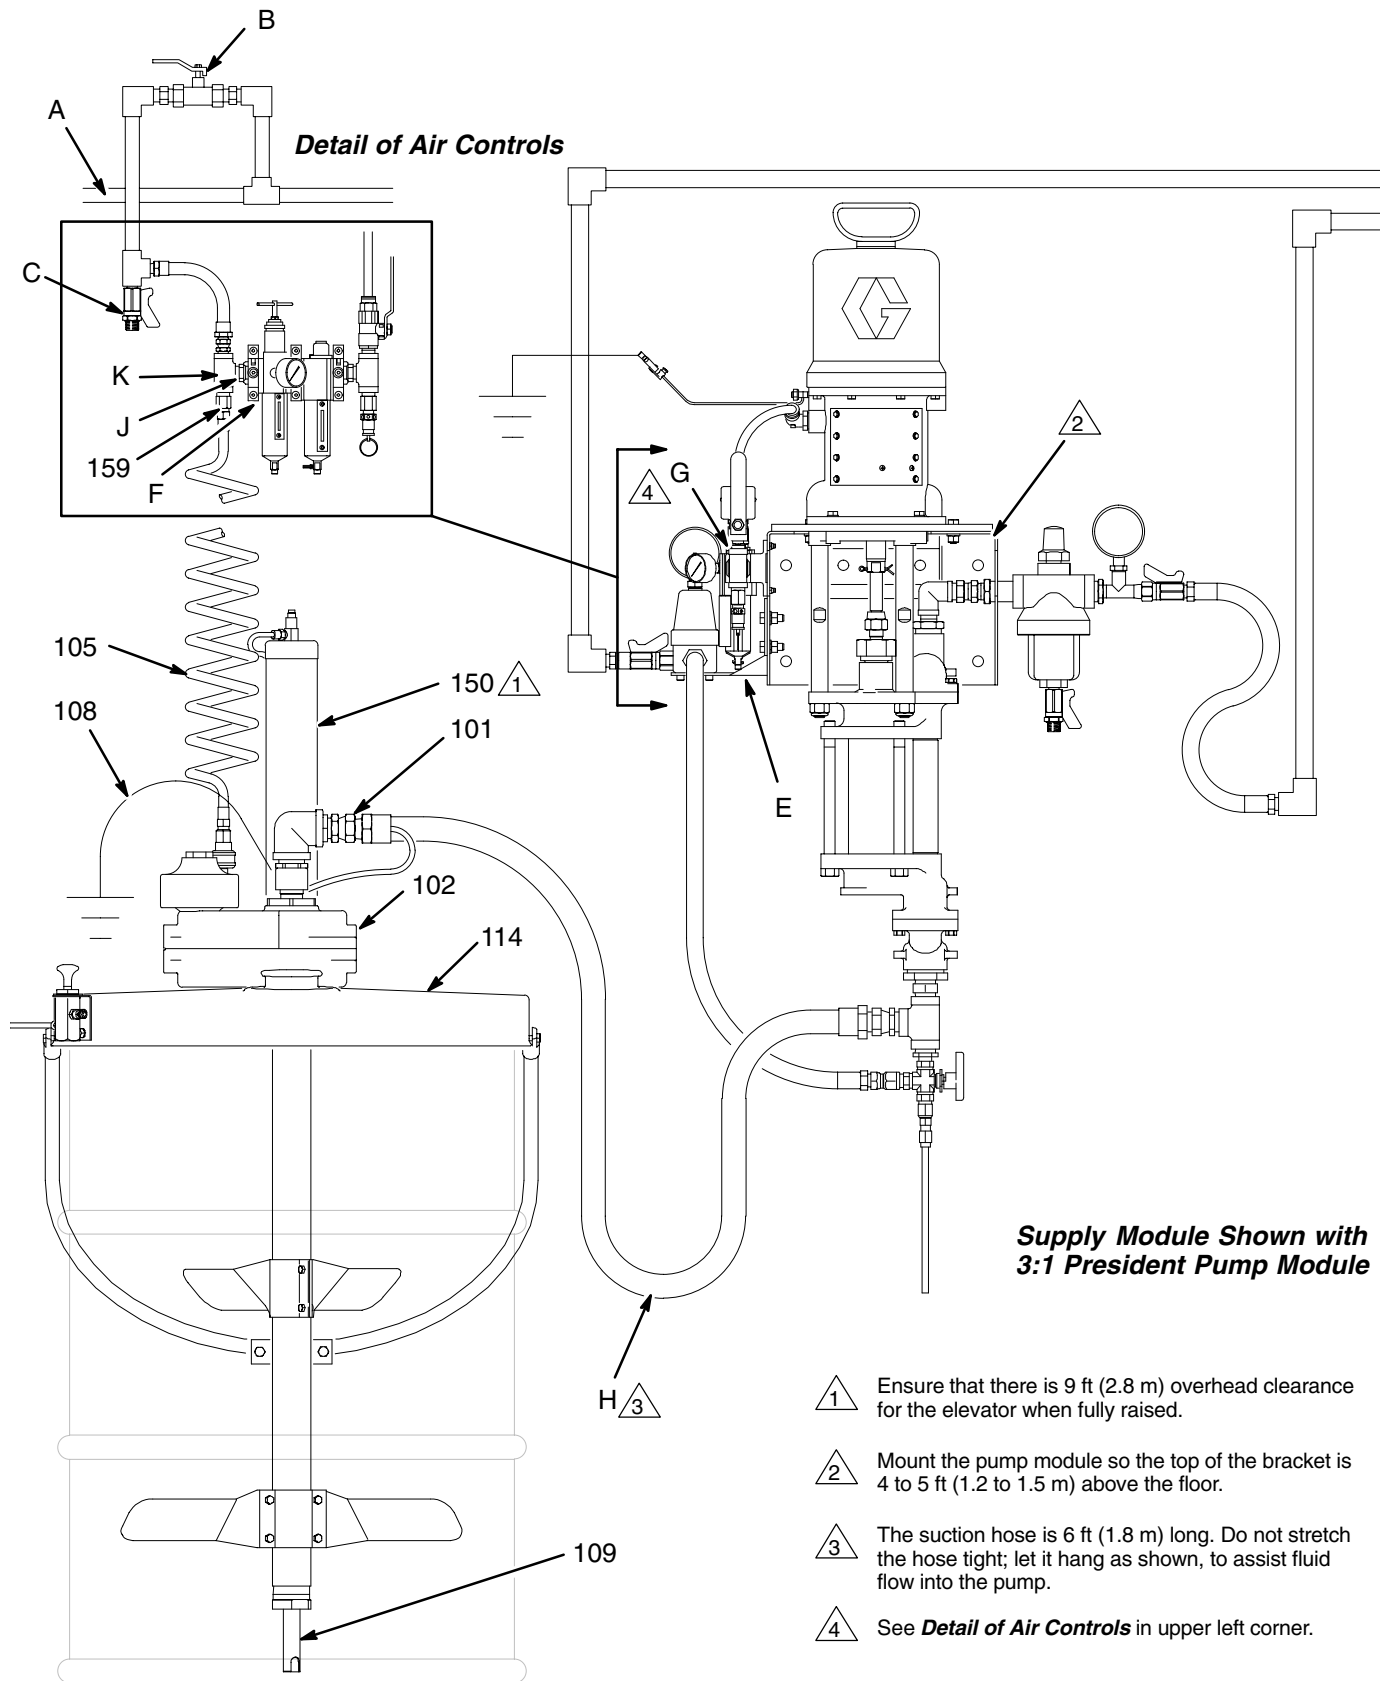

Fig. 1
Refer to Fig. 1. Bring a compressed air supply line (A) from the air compressor to the supply module location. Be sure all air hoses are properly sized and pressure-rated for your system. Use only electrically conductive hoses. The air hose should have a 3/8 npt(m) thread.
NOTE: Refer to Fig. 1 and to the Dimension drawing on page 14 and the Mounting Hole Layout on page 15.
2. Remove and discard the existing suction tube at the end of suction hose (H).
3. Locate the elevator (150) so the pump's suction hose (H) will reach the swivel (101) at the top of the back-gear agitator (102). The suction hose is 6 ft (1.8 m) long. Do not stretch the hose tight; let it hang as shown in Fig. 1, to assist fluid flow into the pump.
5. Connect the suction hose to the swivel outlet (101) of the agitator (102). Connect the suction hose ground wire to the ground lug on the agitator as shown on page 8.
6. Loosen the captive screw and open the quick connector (F) on the air filter/regulator/lubricator assembly (G).
7. Slide the pipe adapter (J) out of the quick connector (F). Remove and discard the pipe plug from the bottom port of the tee (K).
8. Bring the coiled hose (105) up through the large hole in the back pressure regulator's bracket (E).
9. Screw the adapter (159) at the end of the coiled hose (105) into the tee (K).
10. Slide the pipe adapter (J) into the quick connector (F), close, and tighten the captive screw.
Refer to Fig. 1.
- Fluid is supplied to the pump through the **suction tube (109)**. The suction tube is installed in the shaft of the agitator (102). See Fig. 1.
- **The back-gear agitator (102)** keeps the fluid in suspension and also includes a suction tube (109) to draw fluid from a 55 gallon drum.
- **The air-operated elevator (150)** allows you to raise the drum cover and agitator from an empty drum, replace the drum, and lower the agitator into the new drum.
- **The stainless steel drum cover (114)** fits a 55 gallon (200 liter) drum.